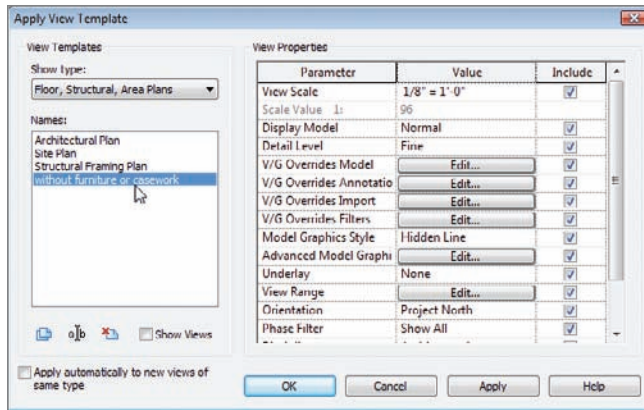

FIGURE 13.14 Selecting the Without Furniture Or Casework template
7. In the View Template dialog, select the Without Furniture Or Casework template, as shown in Figure 13.14.